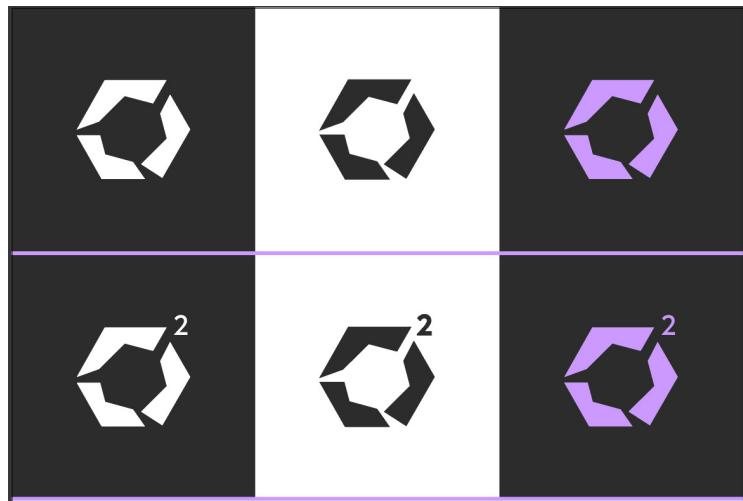

Figure 65: The new logos
- Got a friend to create new logos for our new team name, the result can be seen in Fig: 65